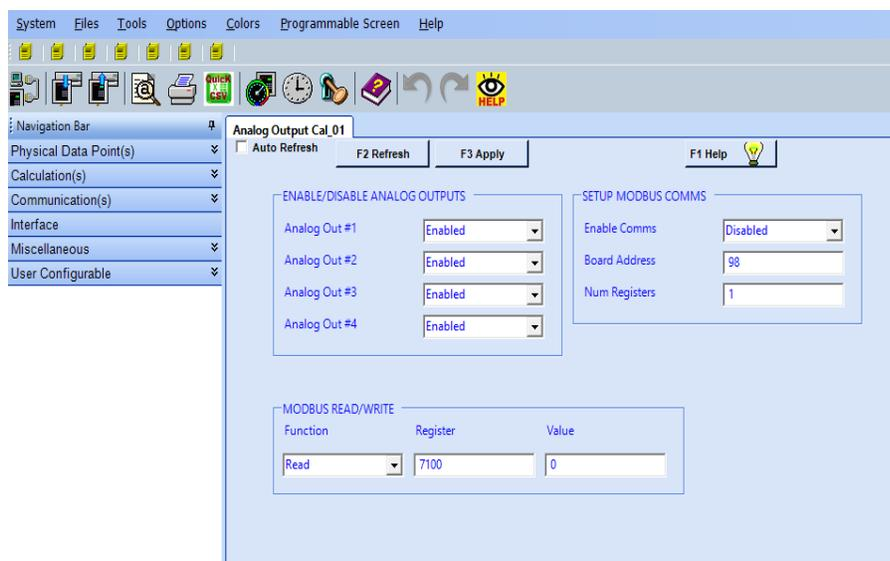

Figure 4-1. Analog Output Cal XX Pre-Configured Screen
1. Analog Output Cal_XX (Figure 4-1)